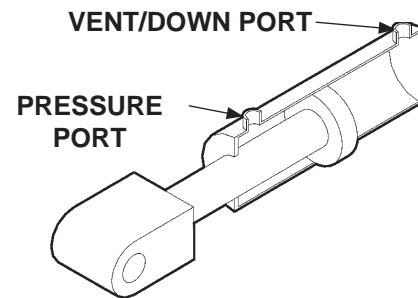

FIG. 69-1
5. Check the hydraulic cylinder. With the platform on the ground, remove the breather plug or vent line from the vent/down port of the cylinder (**FIG. 69-1**). Raise the platform even with the bed. Allow pump motor to run two seconds more while you watch for hydraulic fluid at the vent/down port. A few drops of hydraulic fluid escaping the vent/down port is normal; however, if it streams from the vent/down port, piston seals are worn. Replace seals.